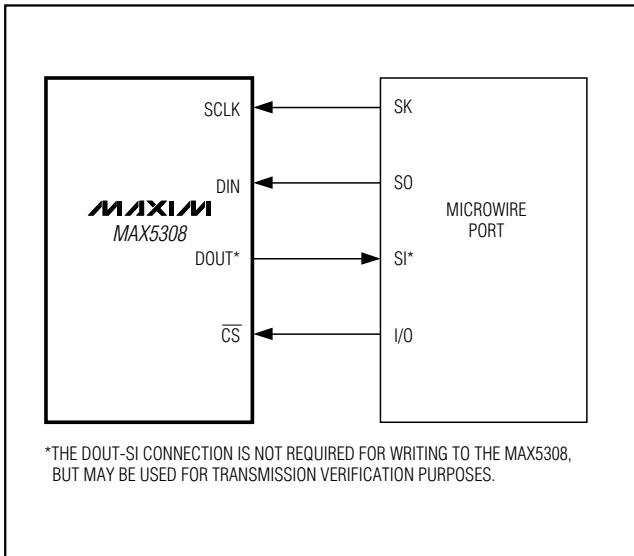
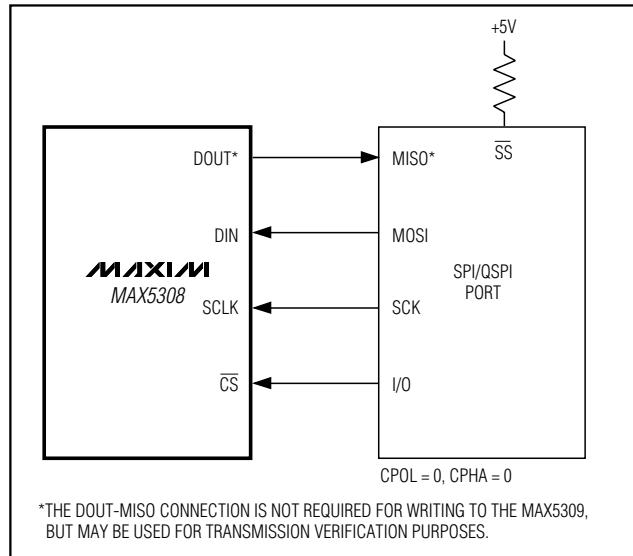

Figure 2. Connections for MICROWIRE
Figure 3. Connections for SPI/QSPI
The MAX5308/MAX5309 3-wire serial interface are compatible with MICROWIRE, SPI, QSPI, and DSPs (Figure 2 and Figure 3). The chip-select input (CS) frames the serial data loading at DIN. Following CS's high-to-low transition, the data is shifted synchronously and latched into the input register on each falling edge of the serial clock input (SCLK). Each serial word is 16 bits, the first four bits are the control word followed by 10 data bits (MSB first) as shown in Table 1. The last two data bits must be zeros. The 10-bit DAC code is unipolar binary with 1LSB = V_{REF} / 1024.